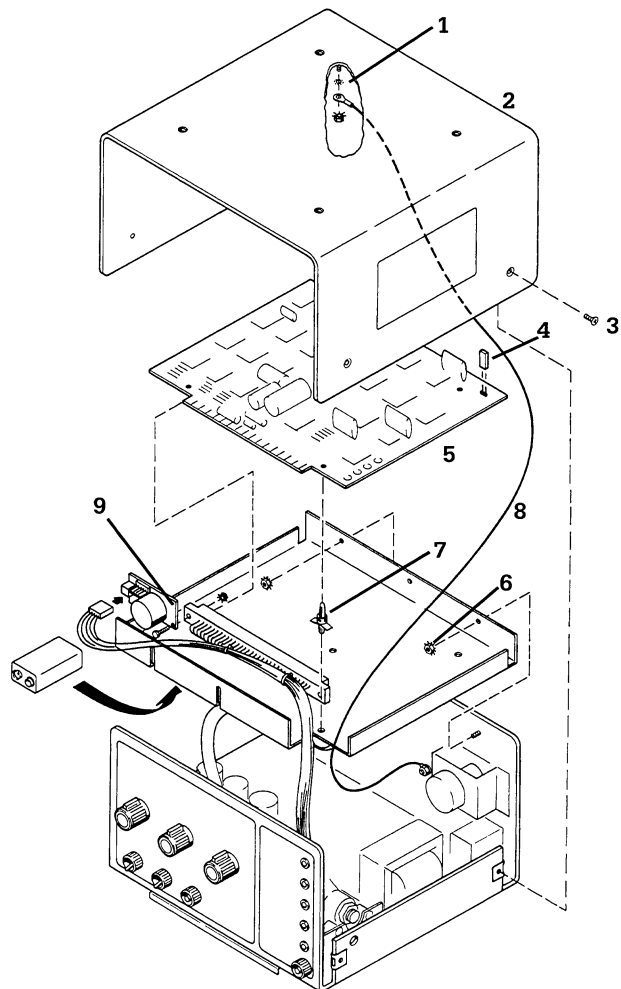

Figure 6-1
2. Remove four screws fastening the cover panel onto the chassis then set the panel aside, (Figure 6-1).